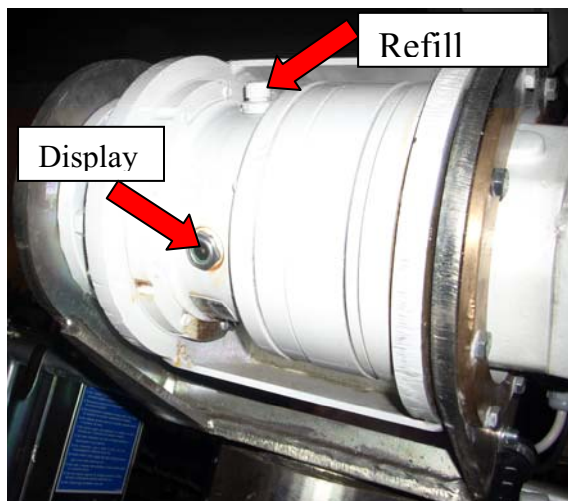

Fig. 6.6
- Check the oil level in the reducer gear for the cage levelling by means of the special display Fig. 6.6. When the display is in horizontal position, the oil level has to be at the middle. If not refill by means of the dedicate cap (Fig. 6.6).